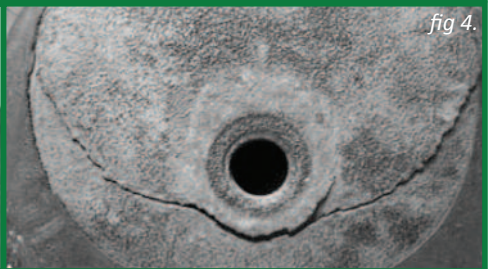

fig 4.
- Leaking at blind nuts or studs (fig 4.).
- Leaking at end closure (fig 4.).